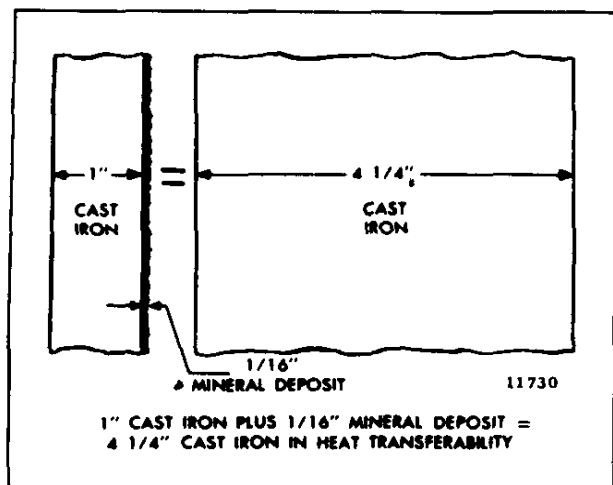

Fig. 1 - Heat Transfer Capacity
*The importance of a properly inhibited coolant cannot be overstressed.* A coolant which has insufficient inhibitors, the wrong inhibitors, or worse-no inhibitors at all invites the formation of rust and scale deposits within the cooling system. Rust, scale, and mineral deposits can wear out water pump seals and coat the walls of the cylinder block water jackets and the outside walls of the cylinder liners. As these deposits build up, they insulate the metal and reduce the rate of heat transfer. For example, a  $1/16$ " deposit of rust or scale on 1" of cast iron is equivalent to  $4\text{-}1/4$ " of cast iron in heat transferability (Fig. 1).
Chromate inhibitors should *not* be used in antifreeze solutions. Chromium hydroxide, commonly called "green slime", can result from the use of chromate inhibitors with antifreeze. This material deposits on the cooling system passages reducing the heat transfer rate (Fig. 1) resulting in engine overheating. Engines which have operated with a chromate-inhibited water must be chemically cleaned before the addition of antifreeze. A commercial heavy-duty descaler should be used in accordance with the manufacturer's recommendation for this purpose.